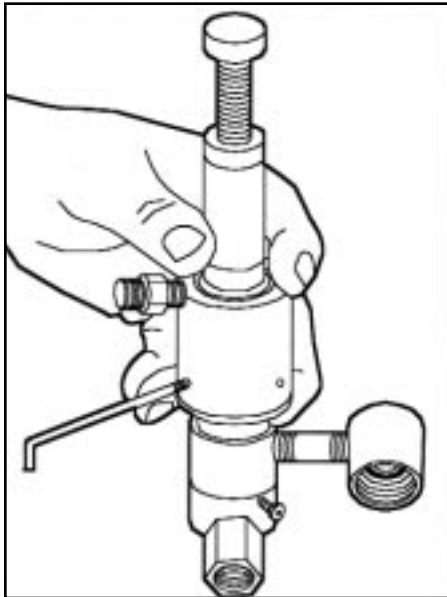

Figure 24
1. Use a 5/64" Allen wrench to remove the motor cylinder set screws that hold the motor cylinder to the oil chamber body. In the "D" series the screws are on the bottom of the motor cylinder and on the "W" series they are on the side. Hold the motor cylinder firmly to avoid losing the motor return spring, which is compressed beneath the motor cylinder. (Fig.24 & 25)